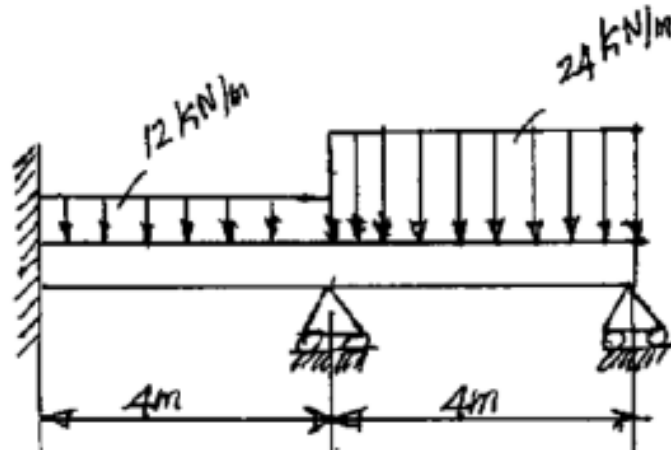

Figure-8
b) For the beam shown in figure-8. Determine the deflection at mid span between the roller supports. Take $E=200$ GPa, $I=4 \times 10^6$ mm⁴.